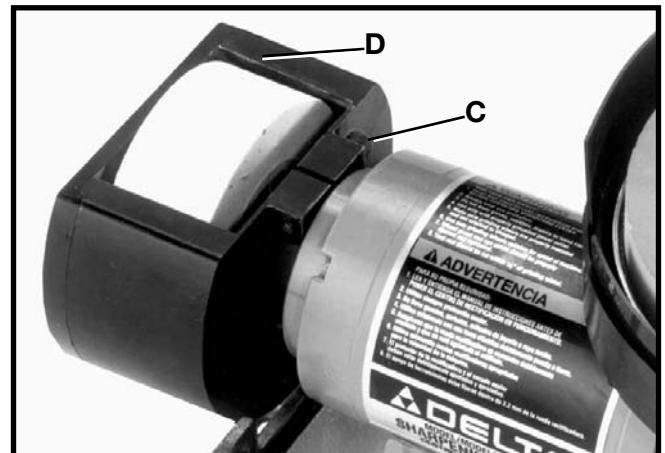

Fig. 48
2. Loosen screw (C) Fig. 47, and rotate wheel guard (D) to the rear, as shown in Fig. 48, and tighten screw (C).